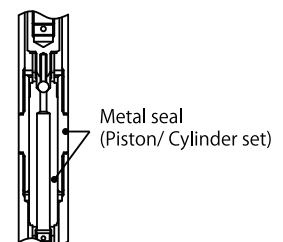

Fig.10
- 9) Wash each part and if damage or wear is found, change to new parts. Especially if the metal seal parts are damaged or wear out, grease will leak and discharge pressure cannot be increased and consequently discharge volume will be decreased. In this case the piston and the cylinder must be changed to new parts simultaneously. (Fig.10)